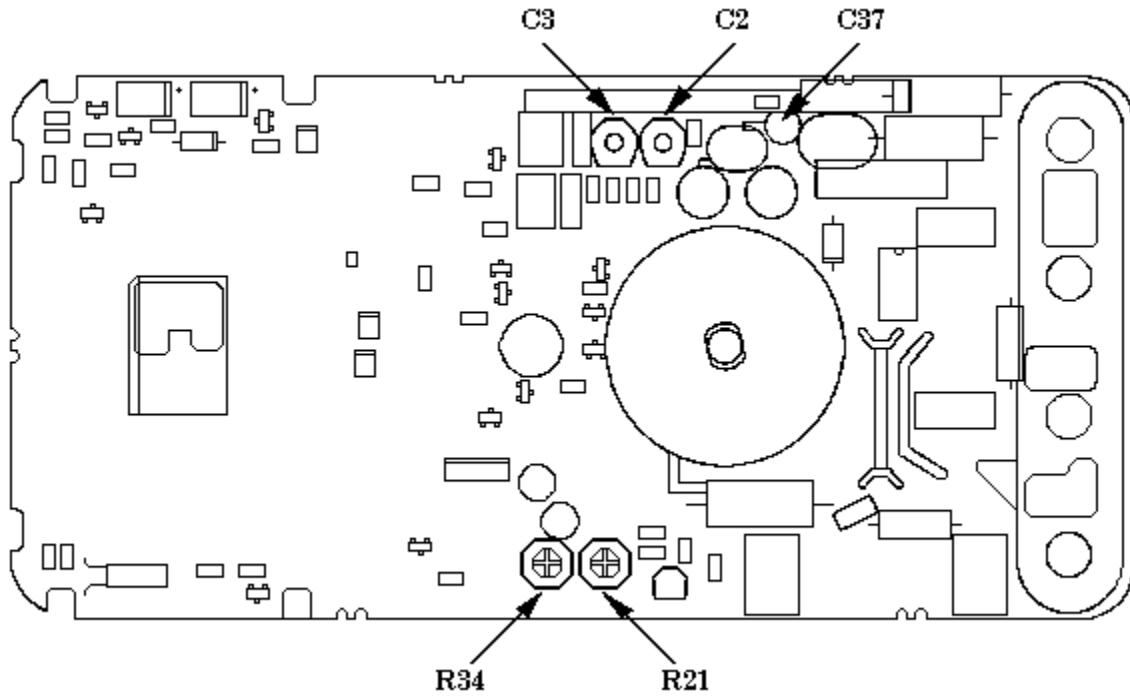

Figure 1. Adjustment locations.
- (1) Set function switch to  $V_{DC}$ .
- (2) Set calibrator for an output of 3.900 V dc.
- (3) Adjust R21 (fig. 1) until TI indicates 3.900 V dc (R).
- (4) Repeat a (1) through (4) above.
(1) Set calibrator for an output of 3.513 V at a frequency of 50 Hz.
(2) Adjust R34 (fig. 1) until TI indicates 3.500 V ac (R).
(3) Change calibrator output amplitude to 100.0 V at a frequency of 20 k Hz.
(4) Adjust C37 (fig. 1) until TI indicates 100.0 V ac (R).
(5) Change calibrator output amplitude to 3.500 V at a frequency of 10 kHz.
- (6) Adjust C2 (fig. 1) until TI indicates 3.500 V ac (R).
- (7) Change calibrator output amplitude to 35.00 V at a frequency of 10 kHz.
- (8) Adjust C3 (fig. 1) until TI indicates 35.00 V ac (R).